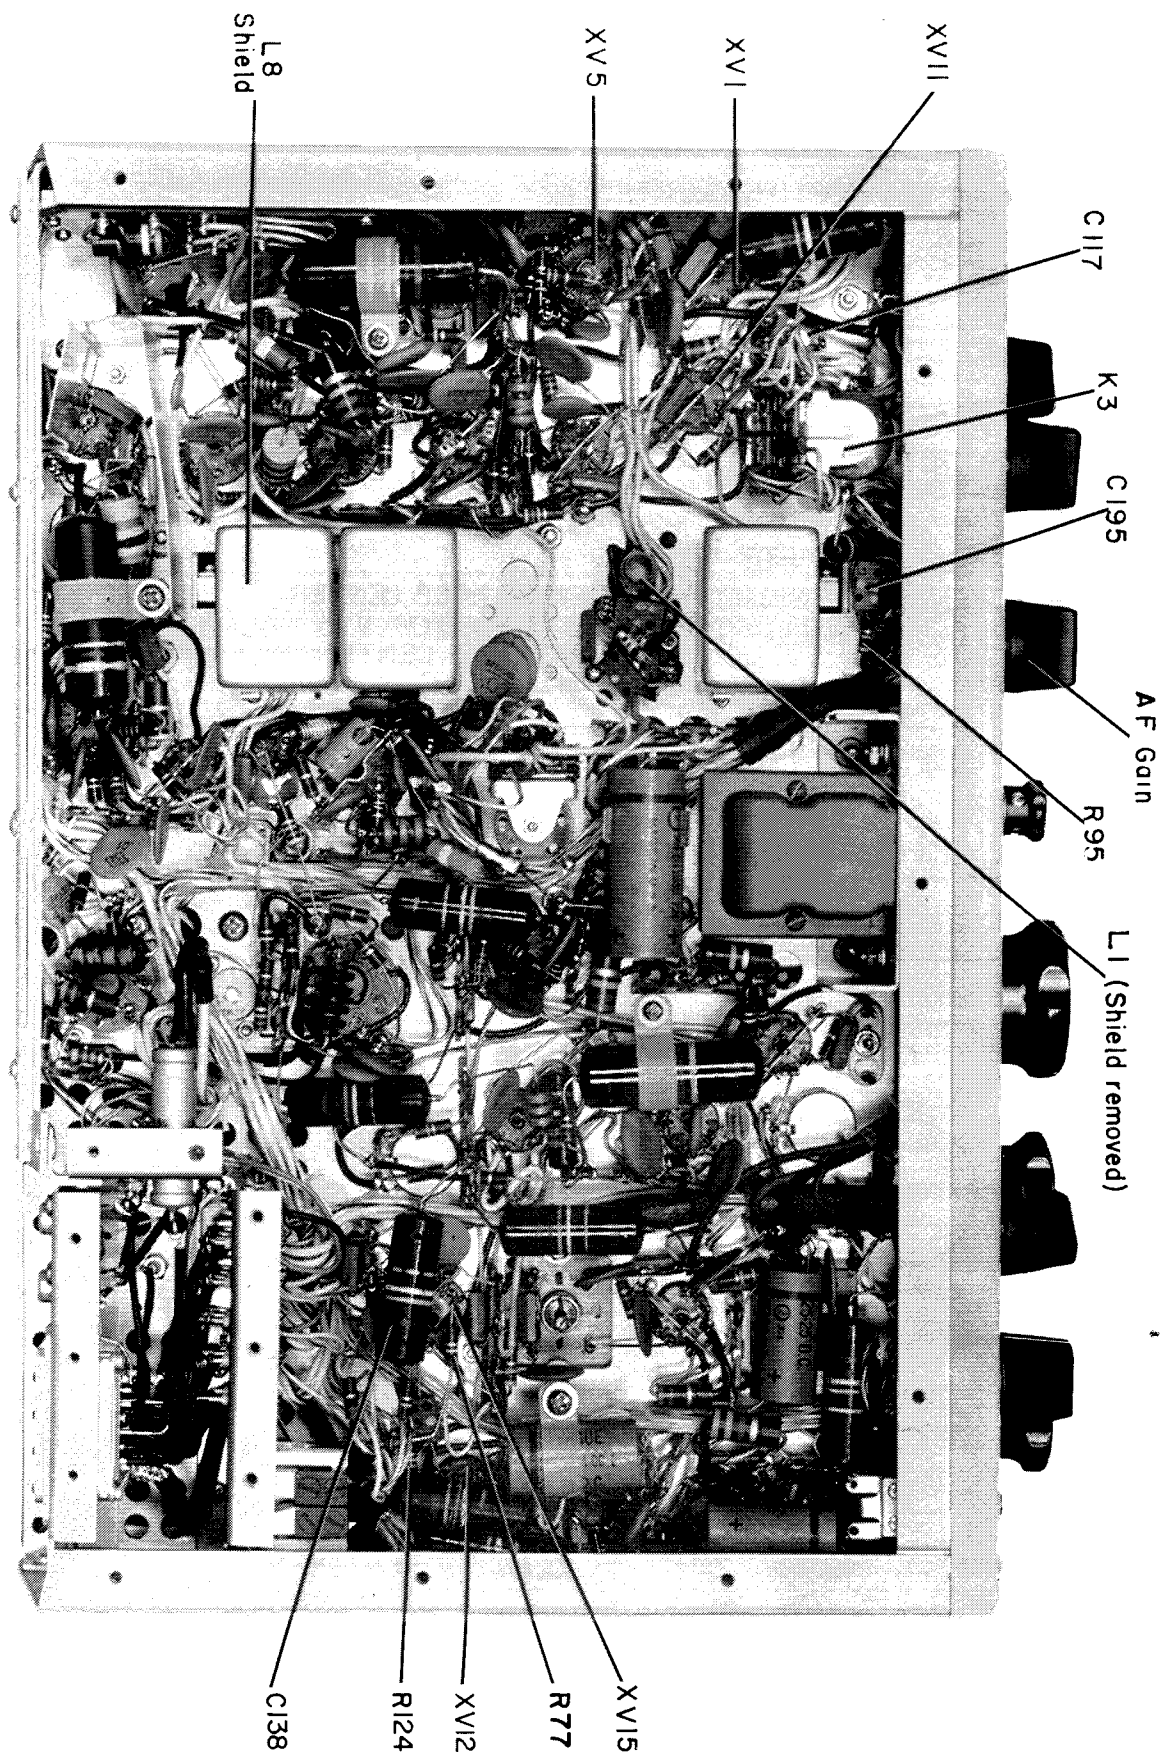

Figure 6. Location of Components, Bottom View
1. Remove the 330K 1/2 watt resistor, R124, connected to terminal on terminal strip behind XV12. (See Figure 6). R124 should be removed by cutting from the strip and discarded.
1. Remove the L8 shield can. See figure 6.
6. Connect .1 uf capacitor, C204, (931 0299 00) from insulated terminal installed in step 3 to same ground as C138. See figure 6.
In earlier models of the KWM-1, some hum could be heard if the AF Gain control was run high when in CW operation. This is actually a low frequency oscillation in the sidetone circuit and may be eliminated by the following modification. Units that have this modification installed will have a four terminal tie strip mounted directly behind the RF and AF gain controls with a 470 K 1/2 watt resistor connected in series with a 220 uuf capacitor mounted on the strip. Figure 6 shows the modified circuit.